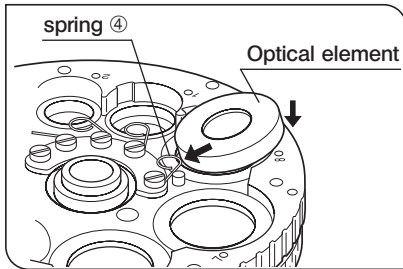

Fig. 8
1. Using the Allen screwdriver provided with the microscope, loosen the turret cover clamping screw ① and remove the turret cover ②.
2. Rotate the turret to engage the aperture position you want to mount the phase contrast or darkfield ring. Then, while pushing in the optical element centering screw ③, loosen it by turning it counterclockwise.
4. Insert the phase contrast ring or darkfield ring in the aperture of the turret as far as it will go. Slightly depress the spring ④ provided inside the turret with the side of ring while inserting. (Fig. 8)